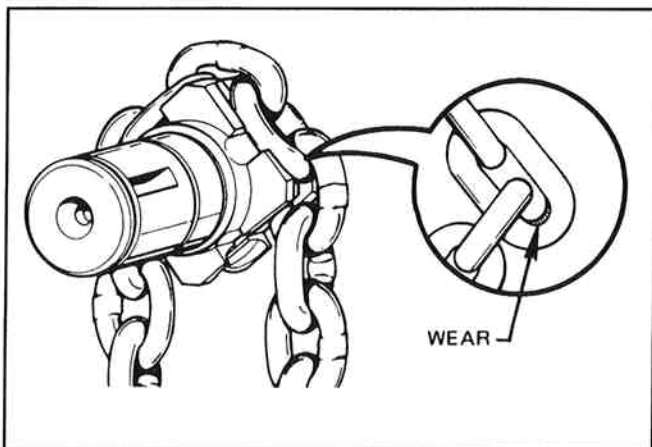

Figure 5-1. Check Chain Wear at Bearing Surfaces Between Links.
(2) **Link Type Load Chain.** Clean chain for inspection. Examine visually for gouges, nicks, weld splatter, corrosion or distorted links. Slacken chain and check bearing surfaces between links for wear, fig. 5-1. Greatest wear will often occur at sprocket at high or low point of lift, particularly when hoist is subjected to repetitive lifting cycles. Case hardness of chain